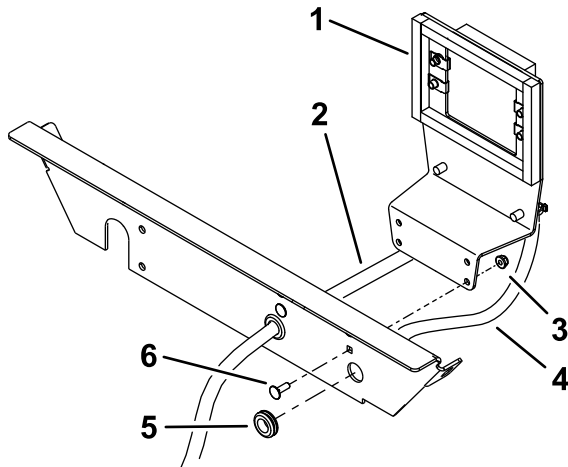

Figure 5
1. Install the grommets into the radiator support (Figure 5).
2. Route the hoses through the grommets (Figure 5).